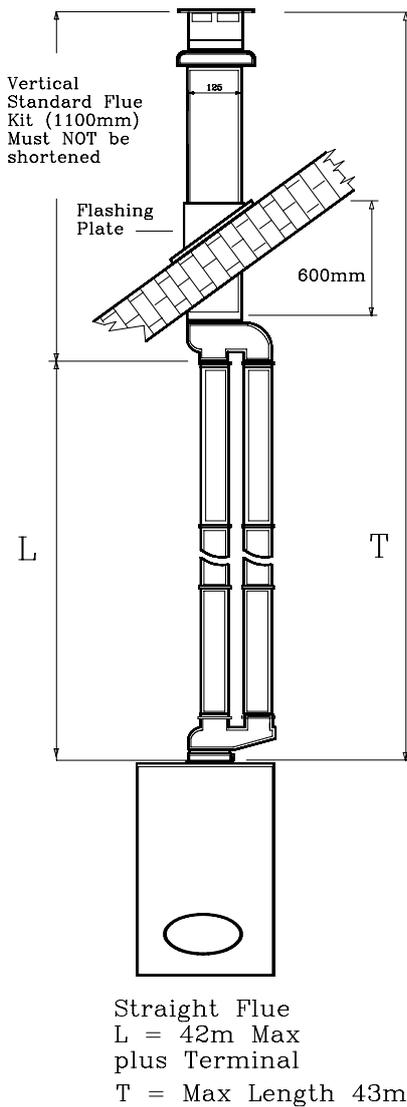

Fig. 51
**11.1.3 Exhaust/suction system with concentric pipes for flat or sloping roofs. Extensions with two separate pipes ( Fig.51 ).**